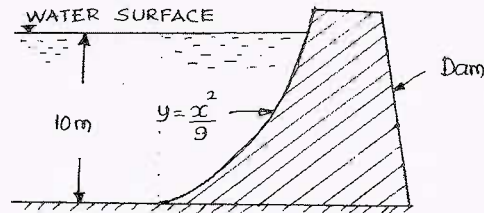

Fig.Q.4(c)
c. Find the magnitude and direction of the resultant water pressure acting on a curved face of a dam which is shaped according to the relation  $y = x^2/9$  as shown in Fig.Q.4(c). The height of the water retained by the dam is 10m. Consider the width of the dam as unity. (08 Marks)